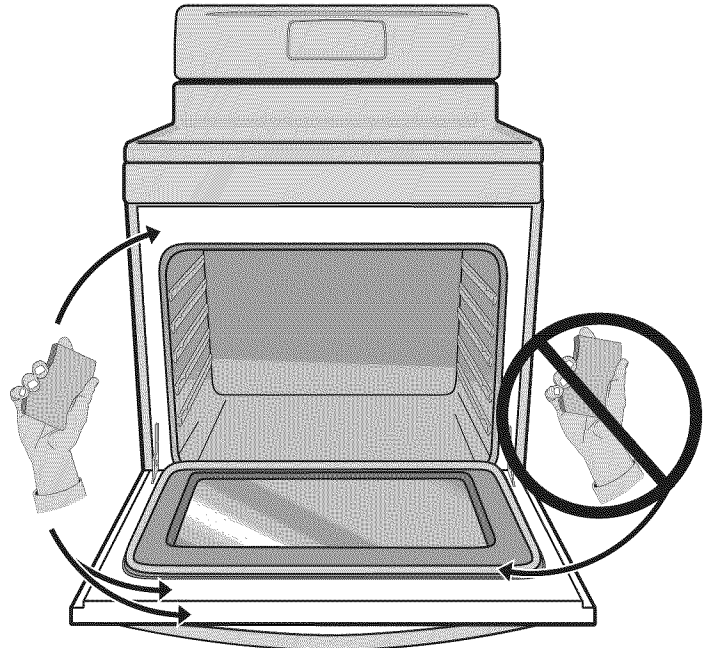

Fig. 1
- Clean any soil from the oven frame, the door liner outside the oven door gasket and the small area at the front center of the oven bottom (See Fig. 1). These areas heat sufficiently to burn soil on. Clean using soap and water prior to starting Flex Clean (See Fig. 1).
- **DO NOT** clean the oven door gasket (See Fig. 1). The woven material of the oven door gasket is essential for a good seal. Care should be taken not to rub, damage or remove the gasket. **DO NOT** use any cleaning materials on the oven door gasket. Doing so could cause damage to the door gasket.